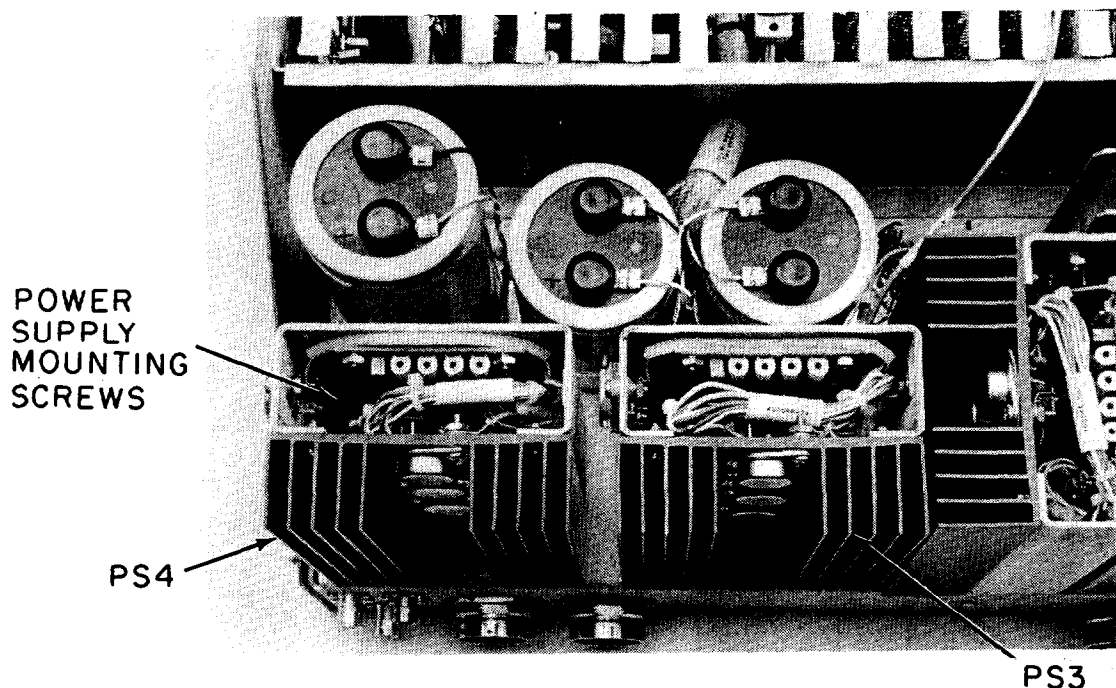

FIGURE 1
8. With R/ACU on the work bench, remove power supplies PS3 and PS4, Figure 1.
G. Install power supplies, Figure 1.